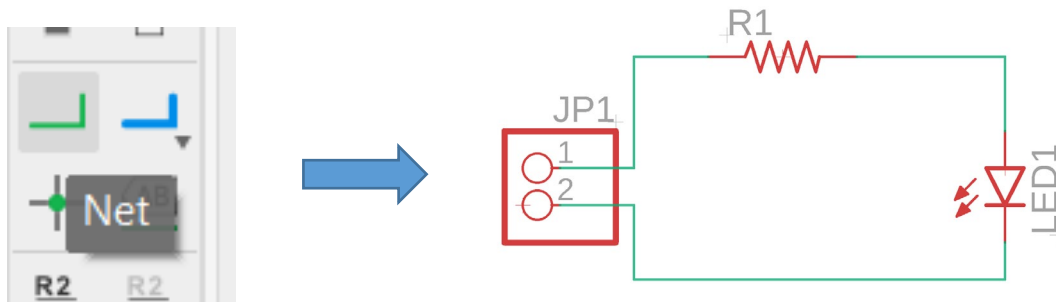

Figure 9 - Select Net to connect the parts together.
11. Using the “Net” tool, connect the circuit parts together as shown in Figure 9 below: